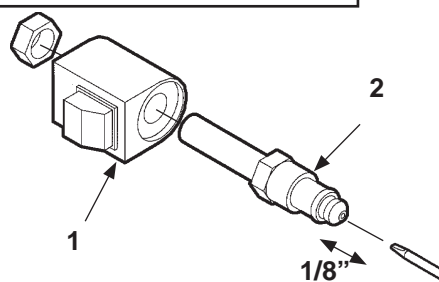

FIG. 54-2
3. Check if solenoid valve is getting power by holding a screwdriver against the top nut of the solenoid. Push control switch to "lower" position to energize solenoid (**FIG. 54-2**). A good solenoid will attract (magnetically) the screwdriver to the nut and make it difficult to pull the screwdriver away from the nut.
4. Check the valve stem by removing the coil assembly (**Item 1, FIG. 54-2**). With platform supported, unscrew the valve stem (**Item 2, FIG. 54-2**) from the pump. Push on the plunger located inside the valve stem by inserting a small screwdriver blade in the end. If the plunger does not move freely (approximately 1/8"), replace the valve stem.